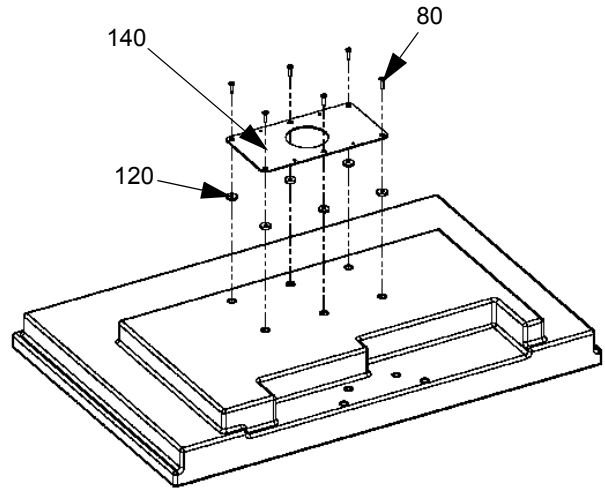

Figure 6: Attach Interface Bracket to Display
1. Select six M4 x 16mm screws (80) and six spacers (120).
3. Install six M4 screws (80) into the six mounting holes on the interface bracket (140) (see Figure 6).
4. Slide six retaining spacers (120) onto six M4 screws (80).